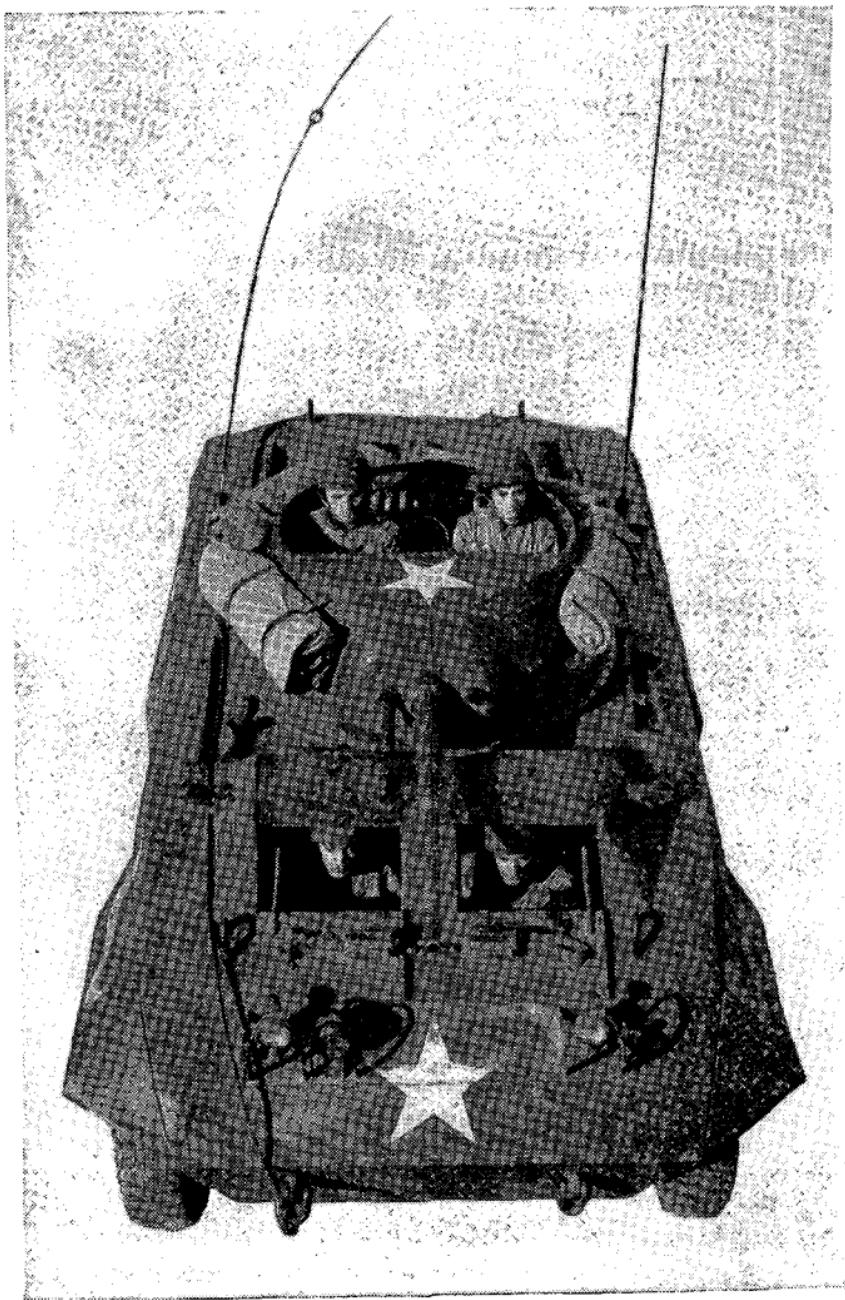

FIGURE 4.—Crew at MOUNTED POSTS.
b. *Mounted posts*.—The crew forms mounted as follows (see fig. 4):
- (1) *Car commander*.—On the right side of the turret, standing on the floor, or sitting or standing on the turret seat.
- (2) *Radio operator*.—In the assistant driver's seat.
- (3) *Driver*.—In the driver's seat.
- (4) *Gunner*.—On the left side of the turret, standing on the floor, or sitting or standing on the turret seat.